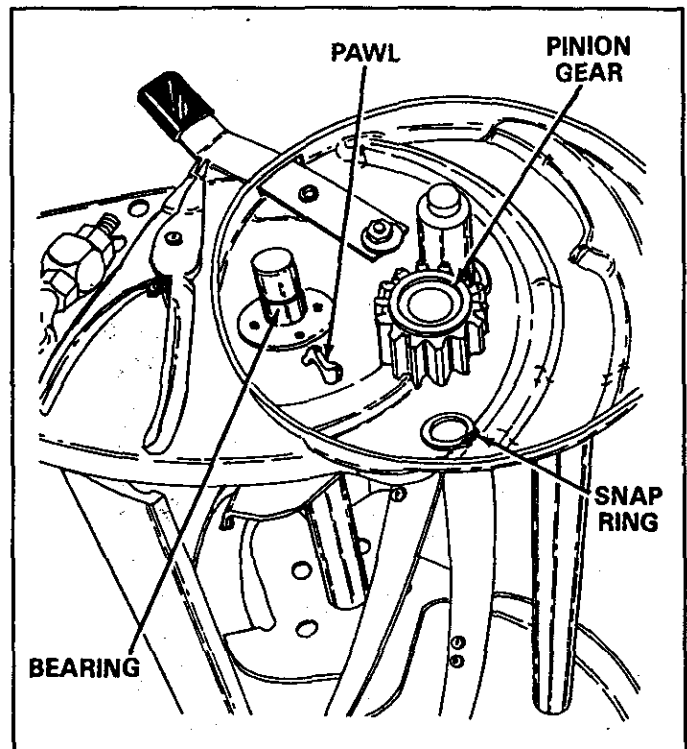

FIGURE 8
- Clean and lubricate the wheel bearings and gears once every season or whenever the reel is sharpened, whichever is more often. Refer to figure 8.